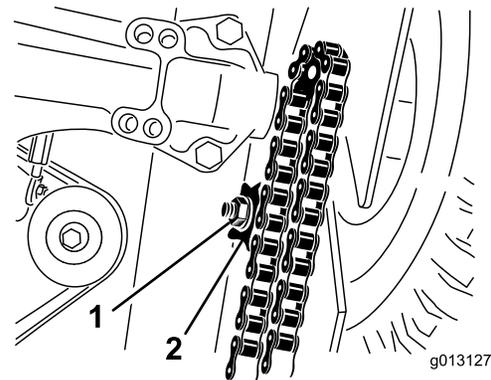

Figure 27
- A. Loosen the nut securing the idler sprocket of the chain you are tensioning (Figure 27).